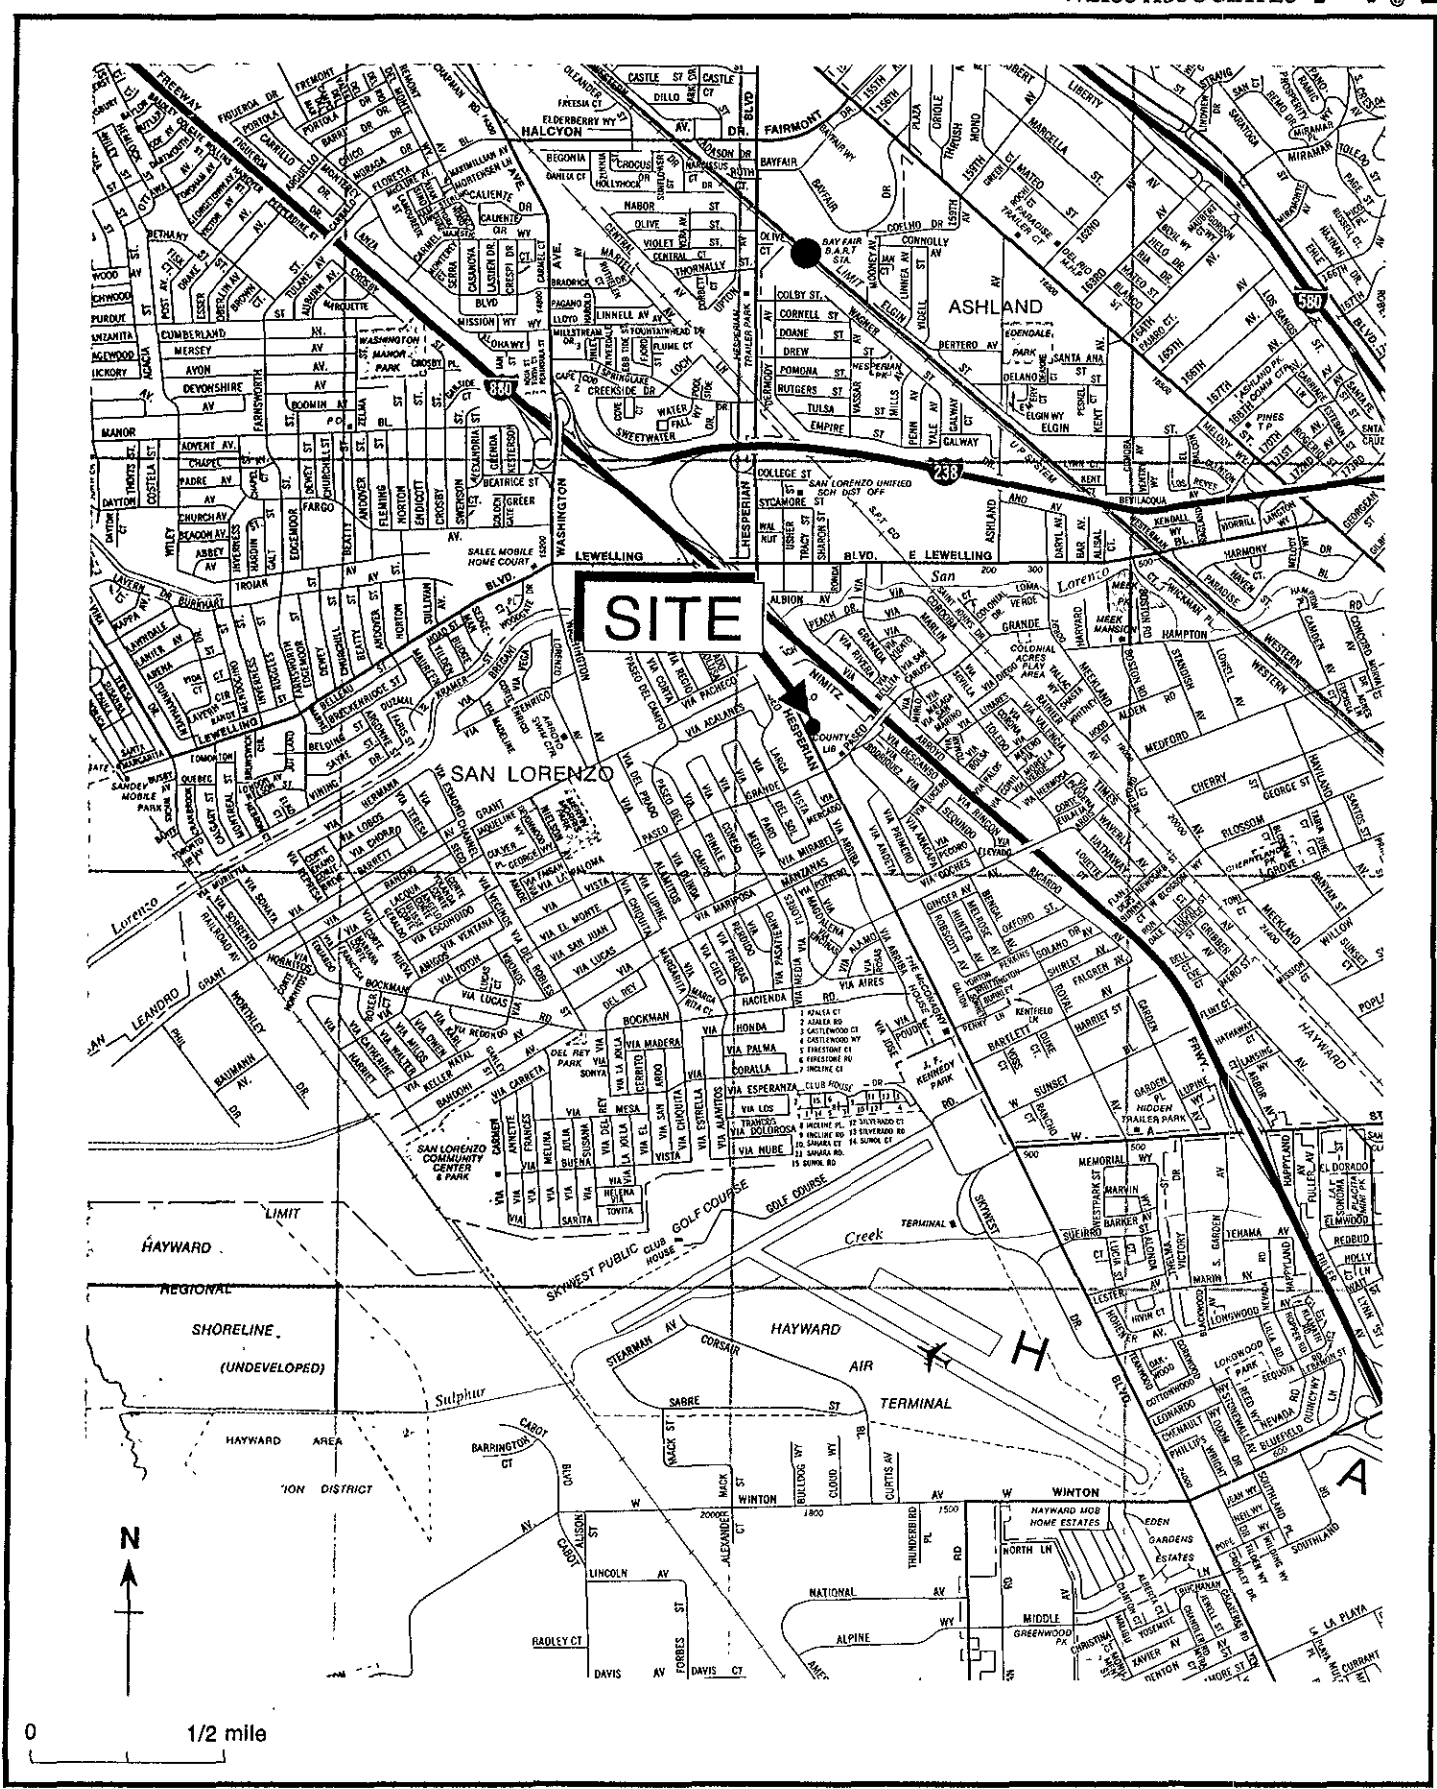
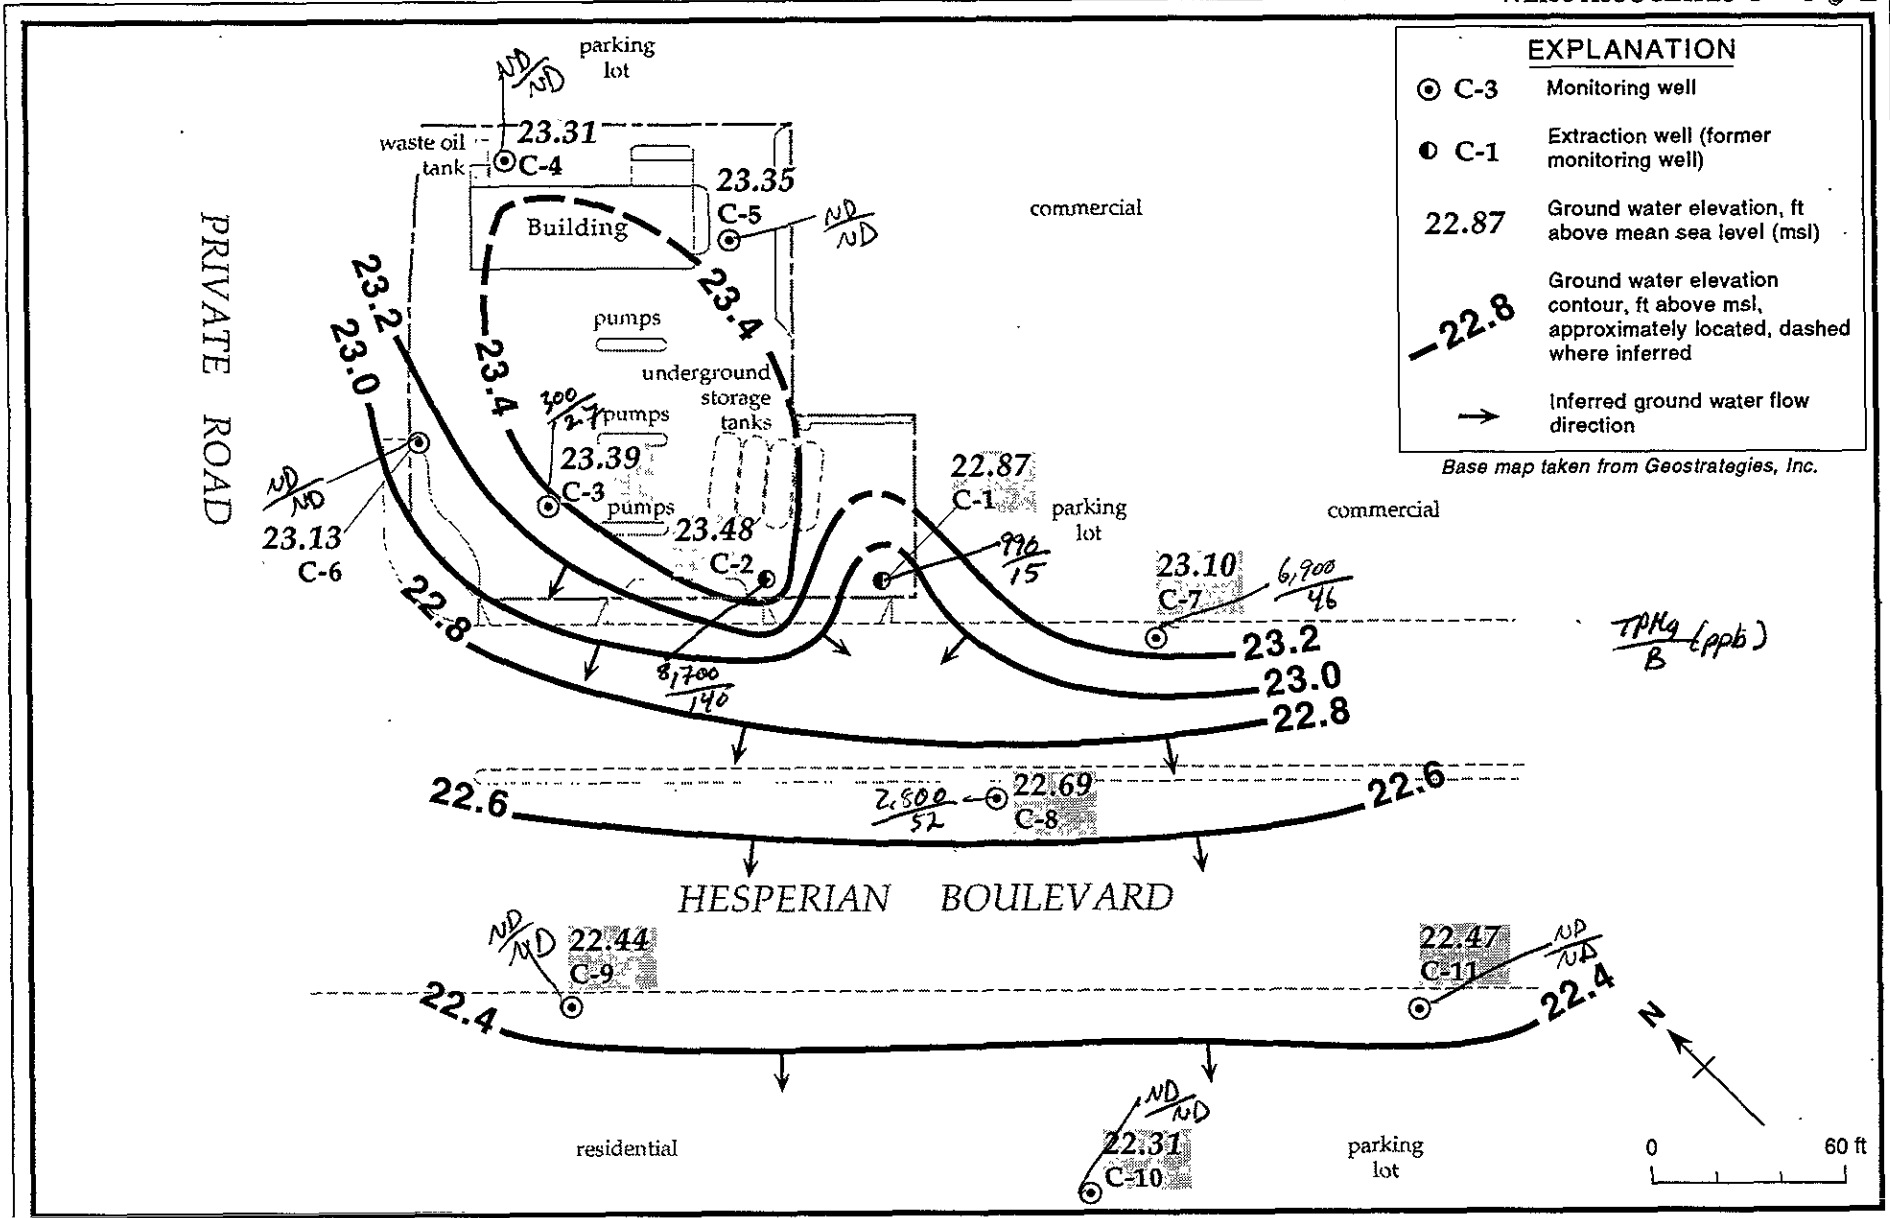

Figure 1. Site Location Map - Chevron Service Station #9-0504, 15900 Hesperian Boulevard, San Lorenzo, California
Figure 2. Ground Water Elevation Contour Map - June 8, 1994 - Chevron Service Station #9-0504, 15900 Hesperian Boulevard, San Lorenzo, California
As you requested, Weiss Associates (WA) is providing this Ground Water Monitoring Report for the site referenced above (Figure 1). WA sampled the ground water monitoring wells (Figure 2) on June 8, 1994, in accordance with the requirements and procedures of the California Regional Water Quality Control Board - San Francisco Bay Region and local regulatory agencies.
The top-of-casing elevation, depth to ground water, and ground water elevation for each well is presented in Table 1. Ground water elevation contours and inferred ground water flow direction are shown on Figure 2.